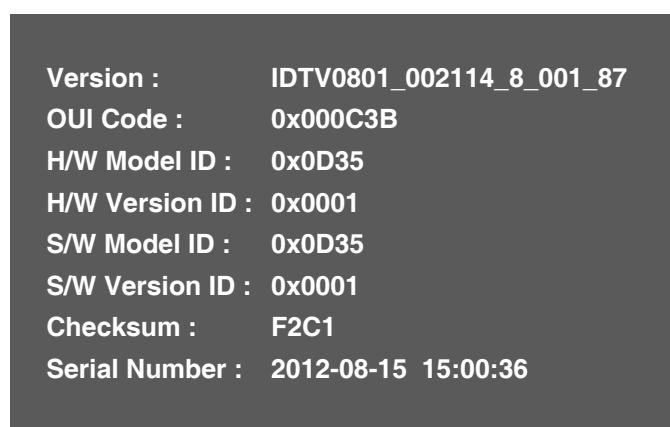

Fig. 1-1
1-5 : On the screen as shown in **Fig. 1-1**.
5. On the screen as shown in **Fig. 1-1.**